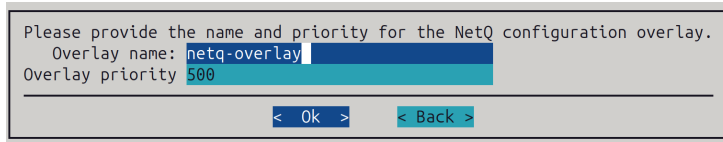

Figure 2.5: NetQ deployment: choosing an overlay
5. The NetQ overlay name and priority are set. In most cases, there is no need to change the suggested values (figure 2.5):